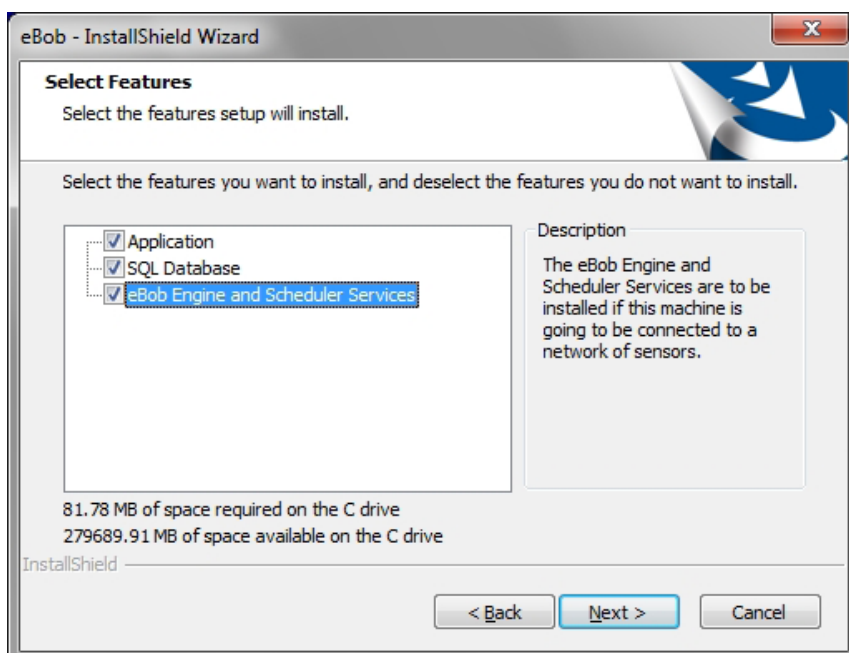

Figure 5
- b. If this installation is for a Database with Site, check all features as shown in Figure 5.